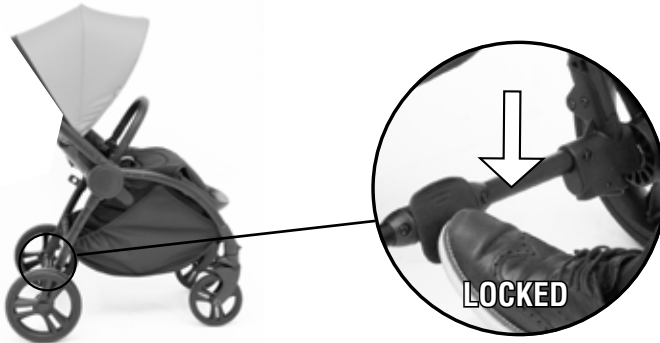

Fig. 1
- **To engage brakes**, apply a light downward pressure to the brake lever. Ensure that the brakes have been applied correctly and that the stroller will not move (Fig. 1)